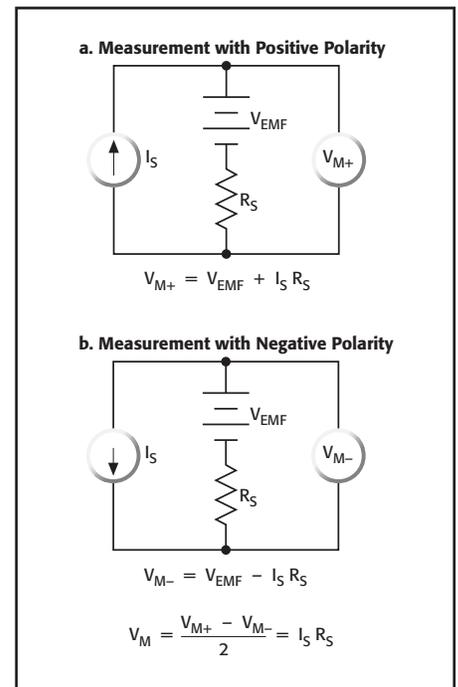

Figure 5b: Canceling thermoelectric EMFs with Current Reversal
- Current Reversal Technique/Two-Step Delta Technique (Figure 5b)** Thermoelectric EMFs can also be cancelled by taking two voltages with test currents of opposite polarity. The voltage due to the test current can now be calculated using the formula shown in Figure 5b. This method provides 2x better signal-to-noise ratio and, therefore, better accuracy than the offset compensation technique. (This is the method employed by the Model 2182A Nanovoltmeter/Model 622x Current Source combination.)